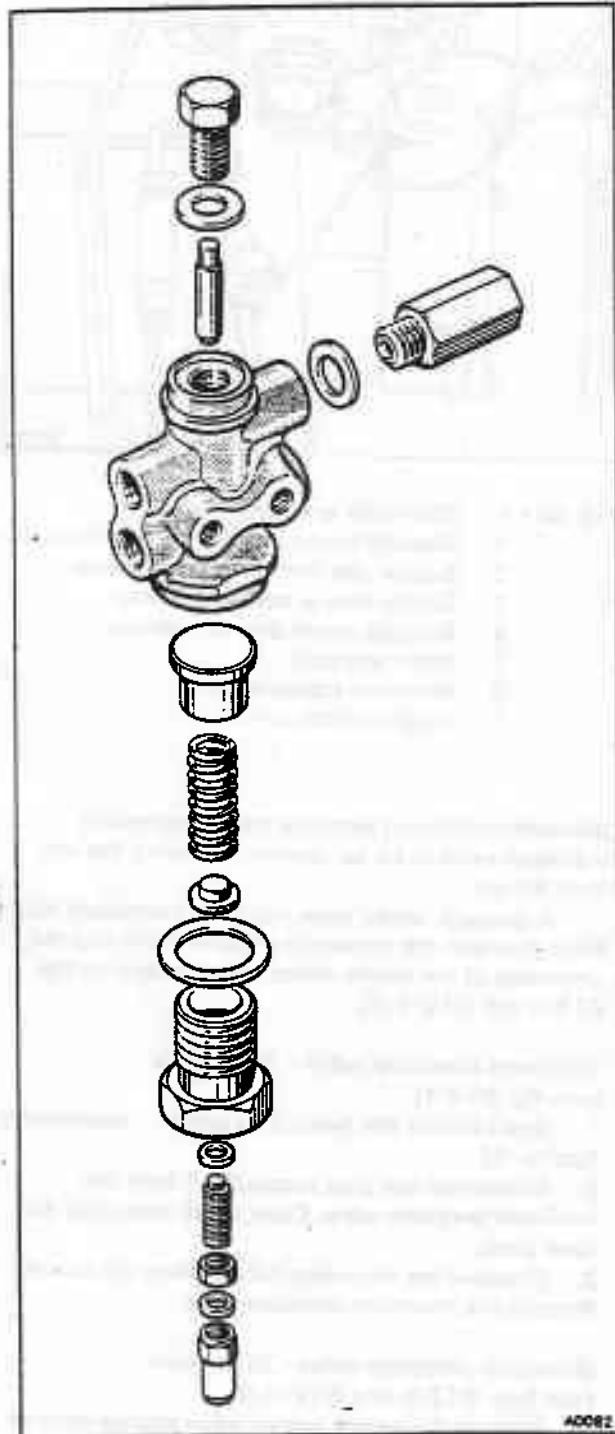

Fig. G14-2 Minimum pressure valve with adjuster
### Restrictor screwed into the minimum pressure valve - To renew (see figs. G14-2 and G14-3)
(see figs. G14-2 and G14-3)
5. Remove the adjuster from the large end cap (see fig. G14-2). Retain the adjuster screw, lock-nut, and domed end nut.